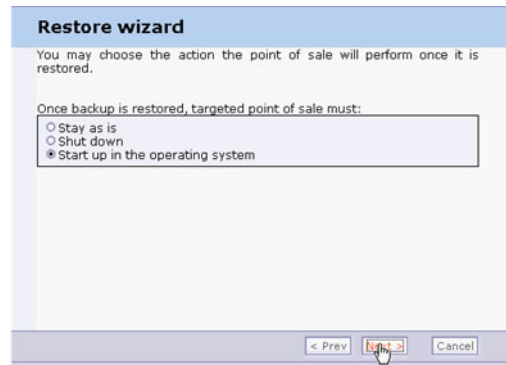

Figure 5-22 Select after-restore action
5. Choose the state that you would like the POS terminal to be placed in after the restore operation has completed (Figure 5-22 on page 115) and click **Next**.